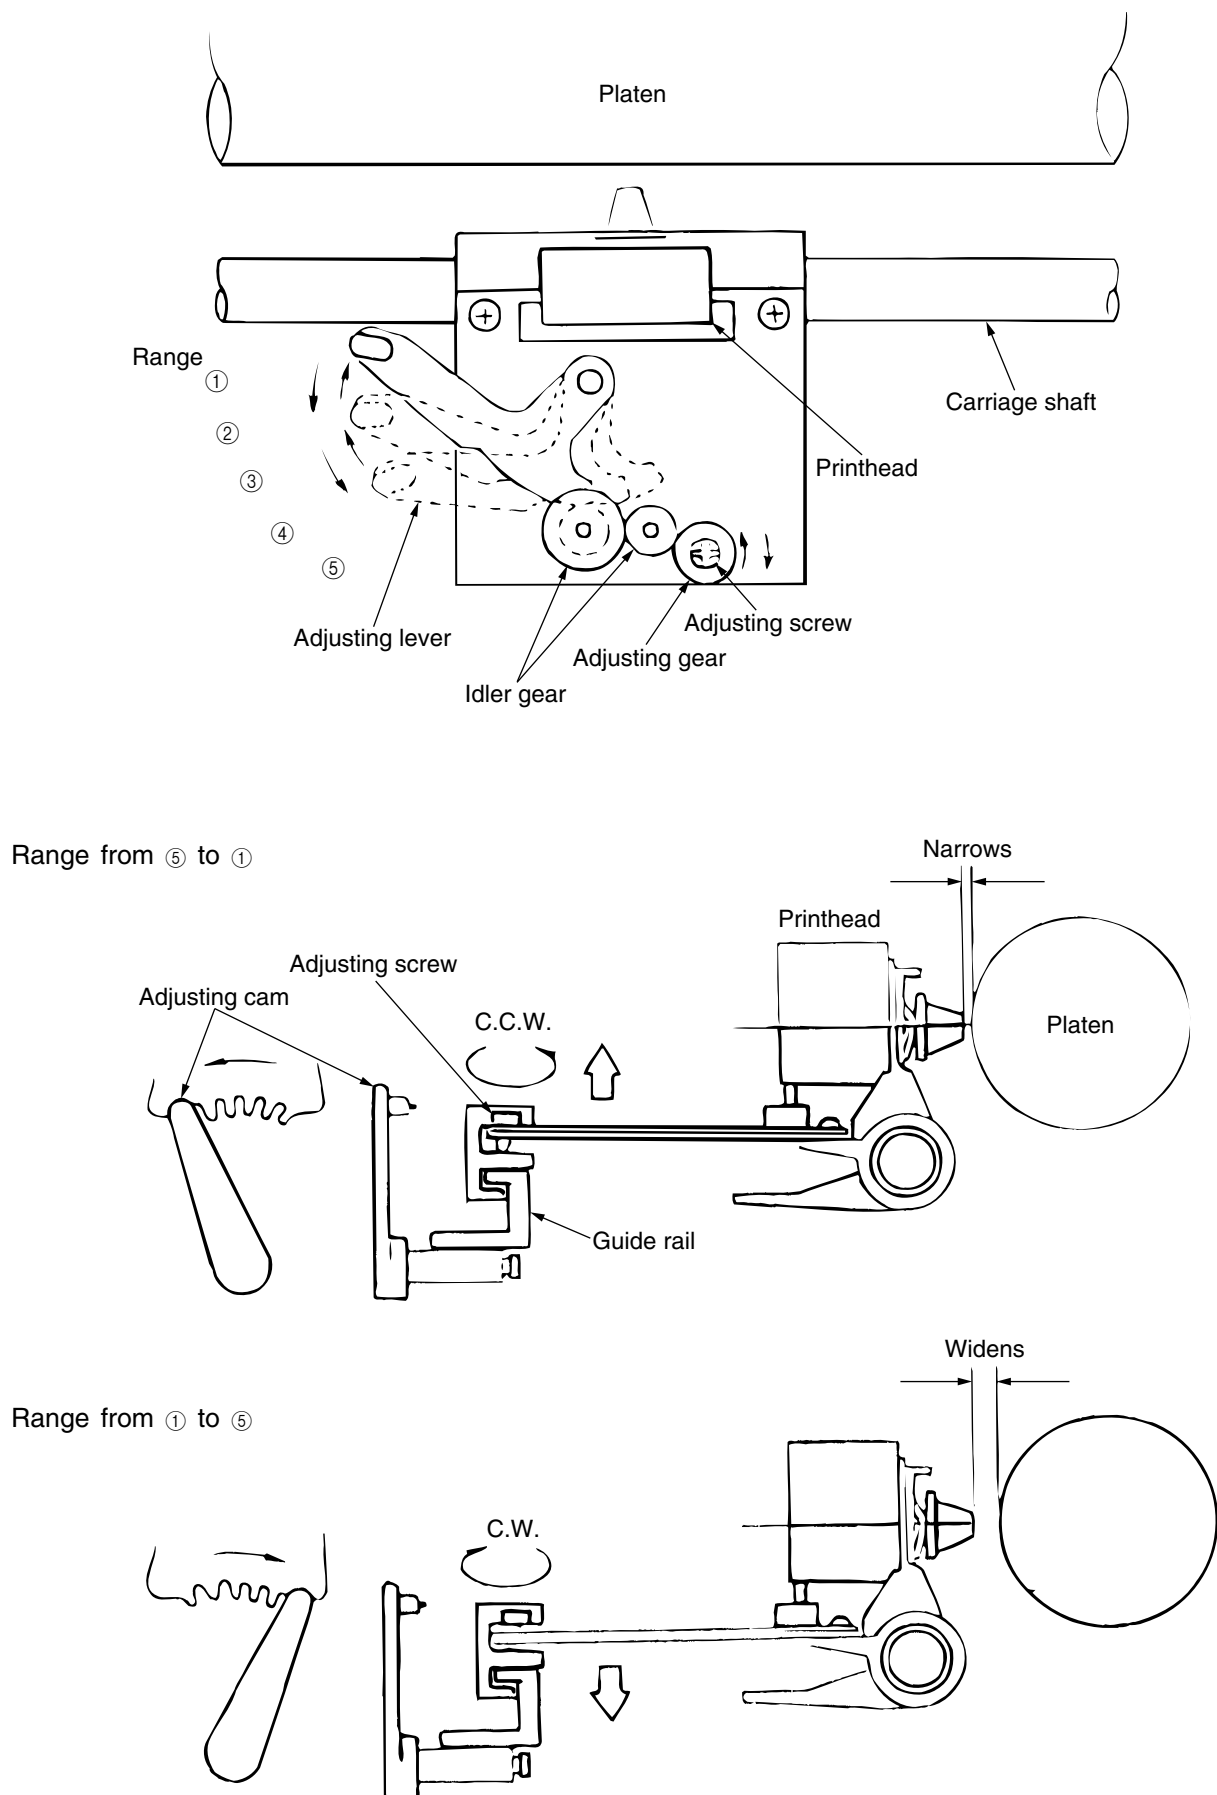

Figure 2-5
2.2.3 Head Gap Adjusting (See Figure 2-5.)